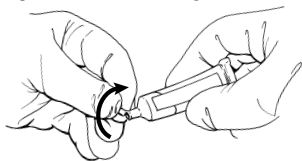

FIGURE 2
- 4a. Break off the tip of the Gel tube (See figure 2).